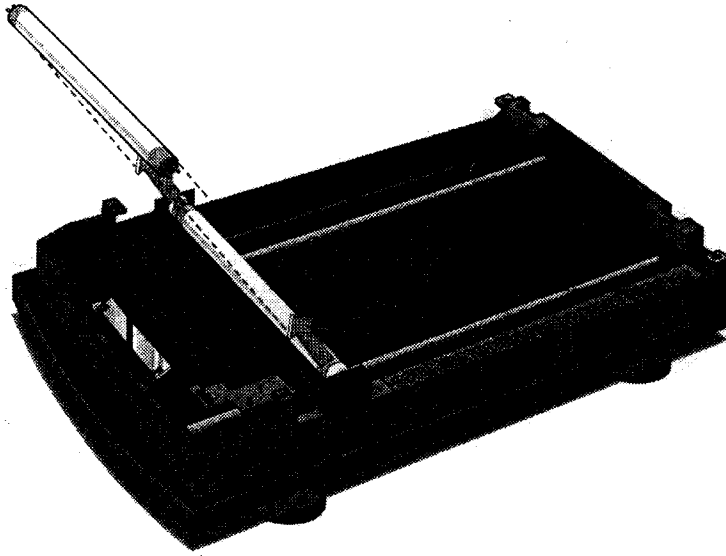

Fig. 5.3 Removing the lamp.
10. Lift the lamp from the sockets as shown in Figure 5.3.